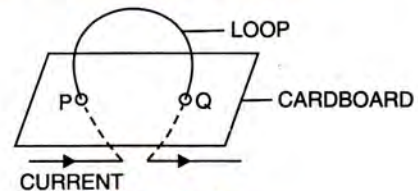

Fig. 10.13
4. The diagram in Fig. 10.13 shows a current carrying loop passing through a sheet of stiff cardboard at the points P and Q.